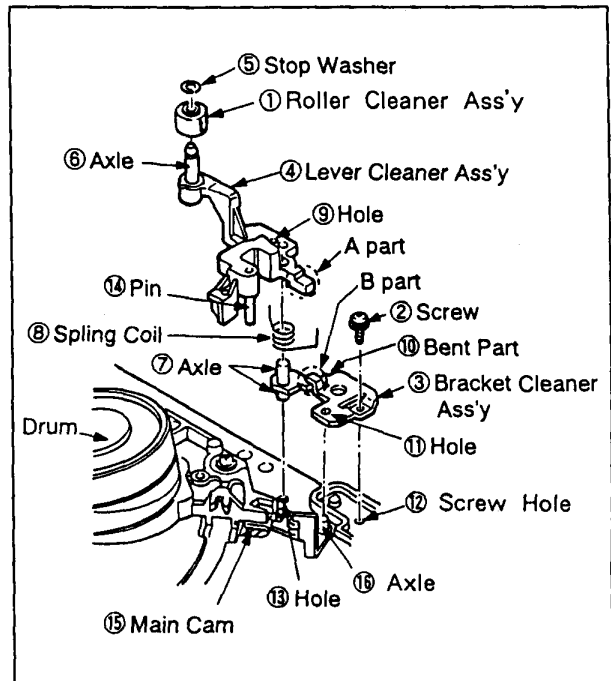
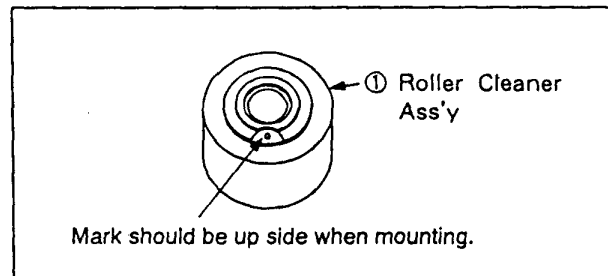
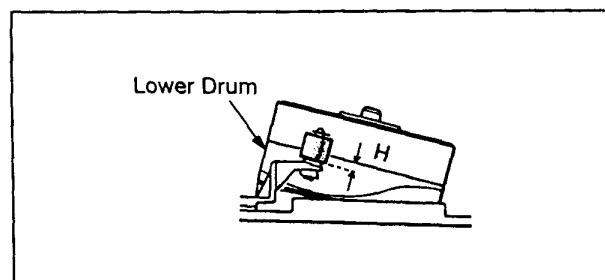

Fig. 5-13-1
Fig. 5-13-2
Fig. 5-13-3
## 5-13. AUTO HEAD CLEANER MECHANISM (See. Fig. 5-13-1 • Fig. 5-13-2 • Fig. 5-13-3)
- 1) Mount the ROLLER CLEANER ASS'Y ① and the stop washer ⑤ to the axle ⑥ of LEVER CLEANER ASS'Y.
Mount the ROLLER CLEANER ASS'Y ① so that the mark shown in Fig. 5-13-2 is up side. If the mark is down side, noise may occur.
- 2) Mount the SPRING COIL ⑧ and the LEVER CLEANER ASS'Y ④ to the axle ⑦ of BRACKET CLEANER ASS'Y. At this time, hook the SPRING COIL ⑧ to the hole ⑨ of the LEVER CLEANER ASS'Y and the bent part ⑩ of the BRACKET CLEANER ASS'Y. "A part" of the LEVER CLEANER ASS'Y should be under "B part" of the BRACKET CLEANER ASS'Y.
- 3) Fix the BRACKET CLEANER ASS'Y ③ on screw hole ⑫ by screw ②. Before fasten screw ②, insert hole ⑪ of the BRACKET CLEANER ASS'Y to axle ⑬, axle ⑦ to hole ⑬ to match positions. Pin ⑭ of the LEVER CLEANER ASS'Y should be run along the circumference of the MAIN CAM ⑮ not to be came off.
- 4) The upper side of the lower drum should be within approx. 2mm from the lower side of the ROLLER CLEANER ASS'Y as shown in Fig. 5-13-3.